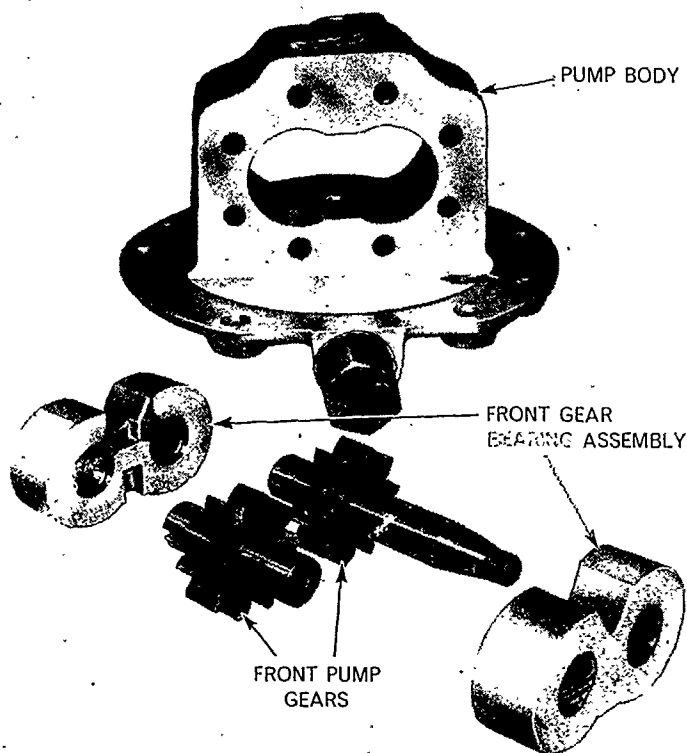

Figure 96
Arrange the bearings and gears as shown in Figure 96. In this position the undercut on the face of each bearing mates with the gear faces. The deepest groove in the bearings is positioned a
1. With the left-hand (rear) bearing in the position shown in Figure 96, assemble the pump pressure driving gear (the gear with the threaded shaft) in the right-hand bore of the bearing.